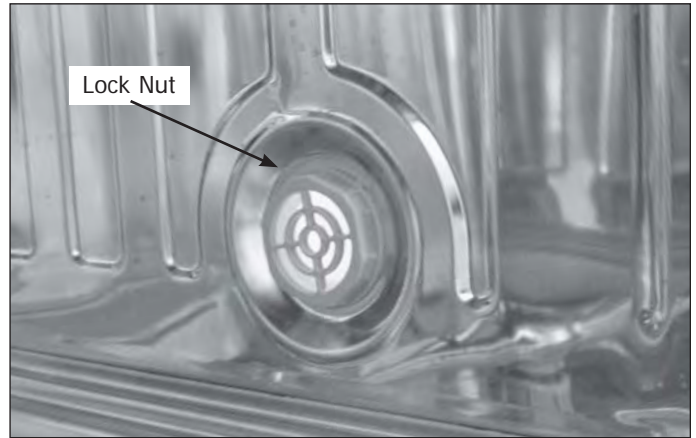

Figure 4-36.
8. From inside tub, remove lock nut from water tunnel by turning counterclockwise. (See Figure 4-36)